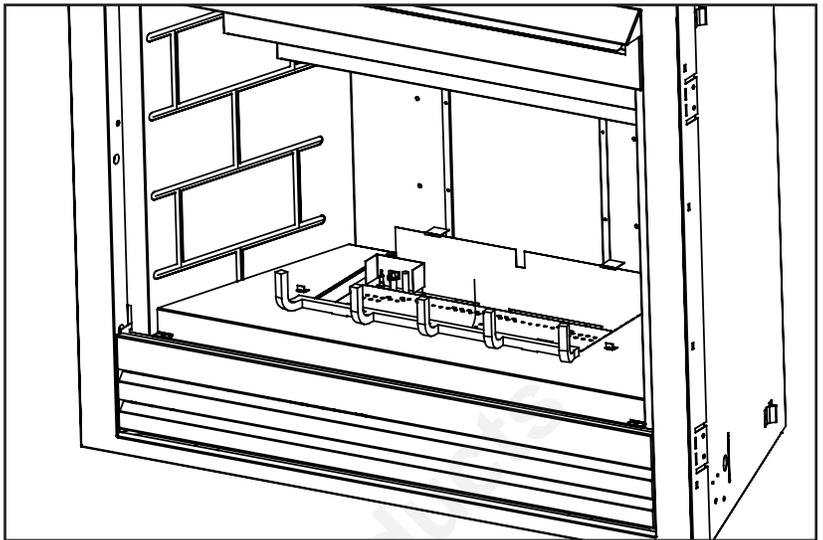

Figure 4
6. Position the grate into the cutout in the refractory. Hook the grate into position using the tabs on the bottom of the grate. Make sure the grate is pulled forward on the refractory (see Figure 4).